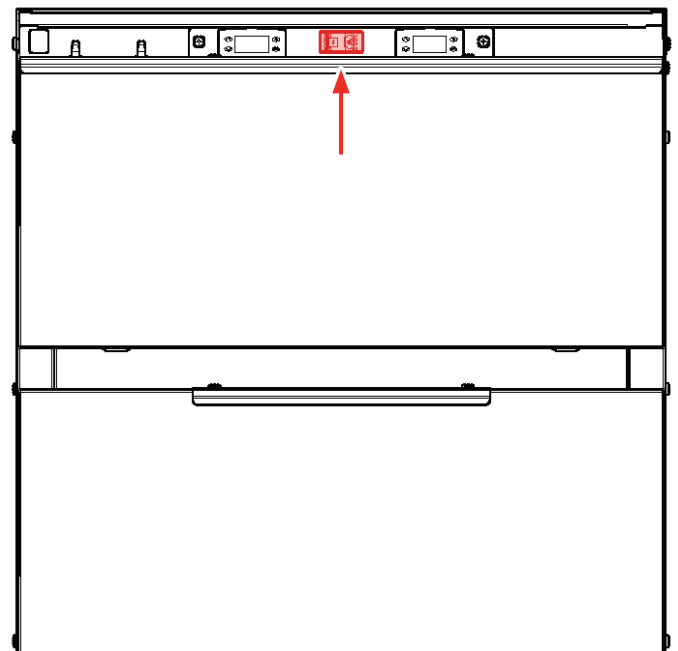

Fig. 14
1. Turn the power switch ON (Fig. 14).